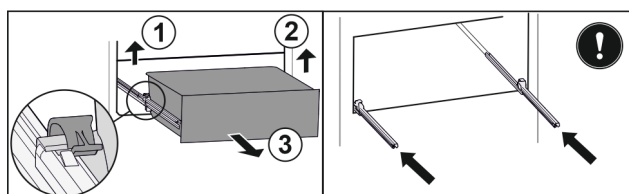

Fig. 111
- Lift left clamp and simultaneously pull drawer forwards on the left. Fig. 111 (1)
- Lift right clamp and simultaneously pull drawer forwards on the right. Fig. 111 (2)
- Remove drawer to the front. Fig. 111 (3)